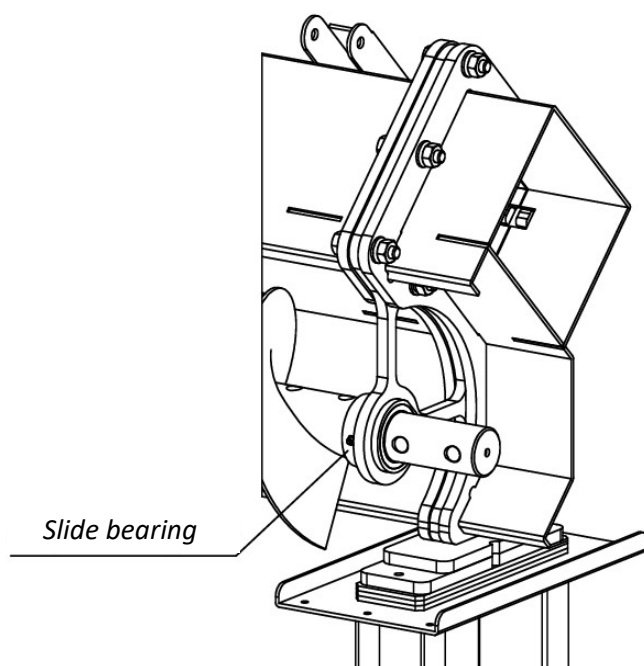

Figure 19. A slide bearing of the unloading screw - the greasing point.
8. Each time before pouring grain into a silo or every 20 hours of the conveyor work at the most, refill solid grease in slide bearings of the screw (Figure 19).
10. Every 60 hours of the conveyor operation, replace all roller bearings of the unloading screw together with sealing rings (Figure 19).